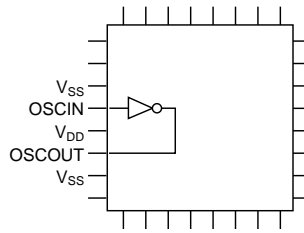

Figure 8-4 Example of the Placement of Critical Signal Pins – 2
- Place the oscillator circuit's input/output pins (OSCIN, OSCOUT) close to each other, separated from other pins by the power-supply pins (V_{DD} , V_{SS}). Do not place output pins that are synchronous to the oscillator circuit near said pins (Figure 8-4).